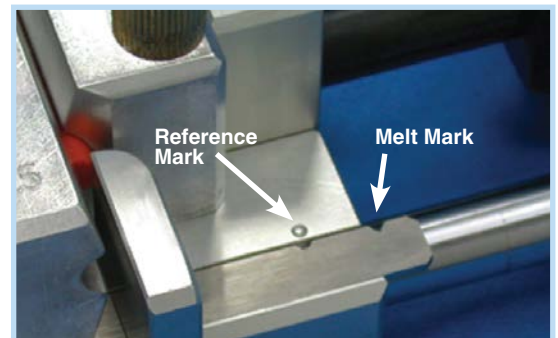

Fig. 39
5. Watch the reference bar. The Melt mark (Fig. 39) will gradually move towards the Reference mark on the movable base.